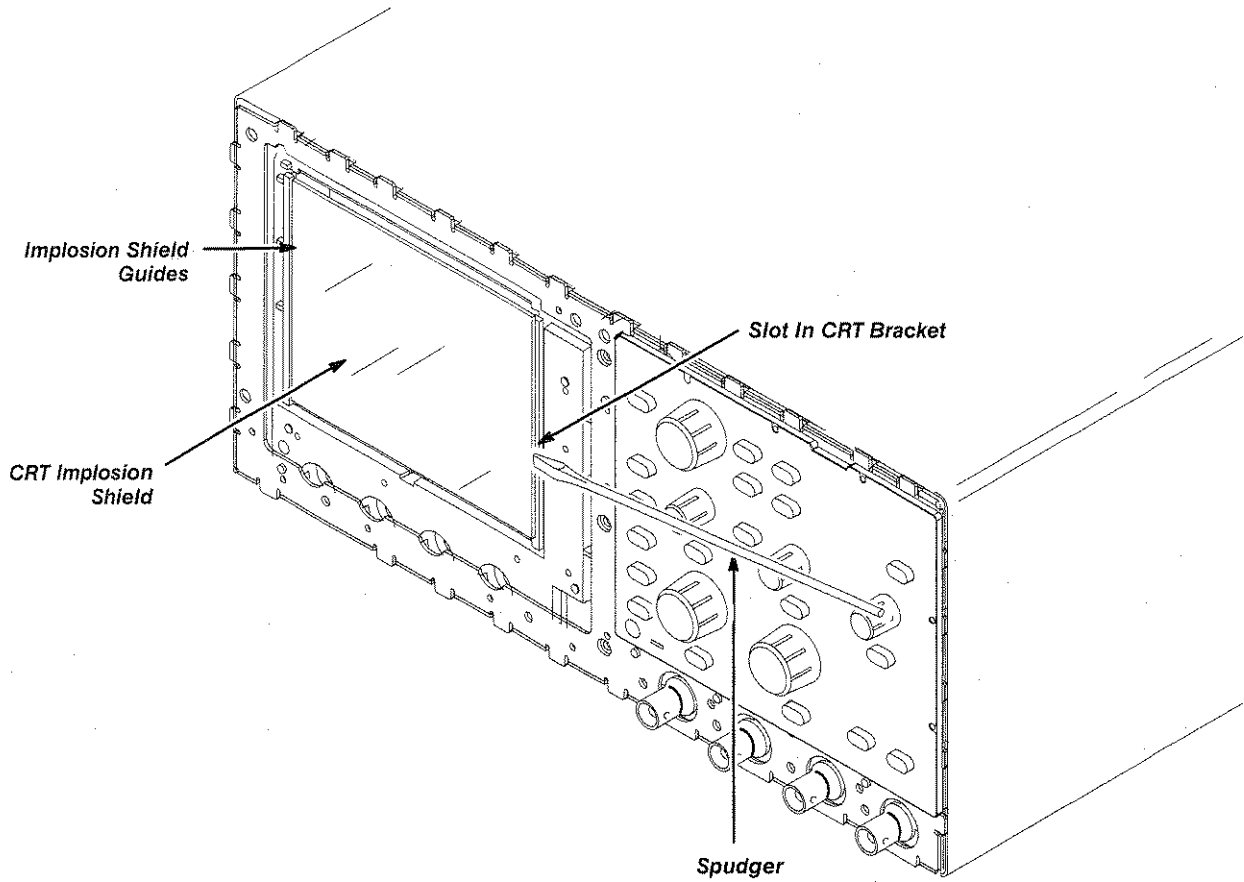

Figure 8-7: CRT Implosion Shield Removal
1. From the front of the implosion shield, slip the spudger into the slot provided on the side of the CRT front bracket. See Figure 8-7.